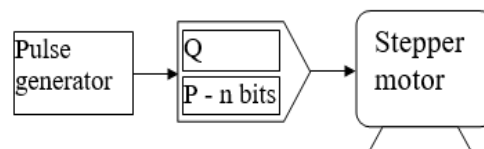

Fig. 1
3) A manufacturer finds that a stepper motor is missing steps from pulse generator as the pulse rate **1 point** (1000 ppm) is too high. In order to bring down the pulse rate to the stepper motor to 875 ppm, a DDA (digital differential analyzer) is included (fig. 1). If the output of the DDA to the stepper motor is to be 875 ppm, the values of X (the content of p) & n should respectively be